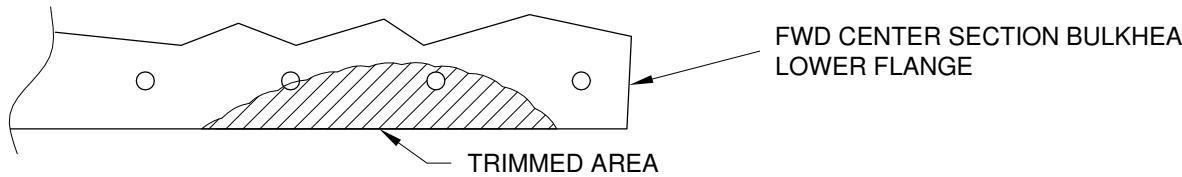

FIGURE 1: TRIMMING THE FWD CENTER SECTION BULKHEAD LOWER FLANGE
Step 1: Temporarily bolt the WD-01021-L-1 Landing Gear Mount Left to the Fwd Center Section Bulkhead Assembly as shown in Figure 2. This will require trimming the outboard portion of the fwd center section bulkhead lower flange to remove interference with the gear leg socket as shown in Figure 1. Figure 1 gives only the general idea of how the final trim will look and is not a final trim template. Trim the fwd center section bulkhead progressively using the landing gear mount left as a guide. Repeat for the WD-01021-R-1 Landing Gear Mount Right.